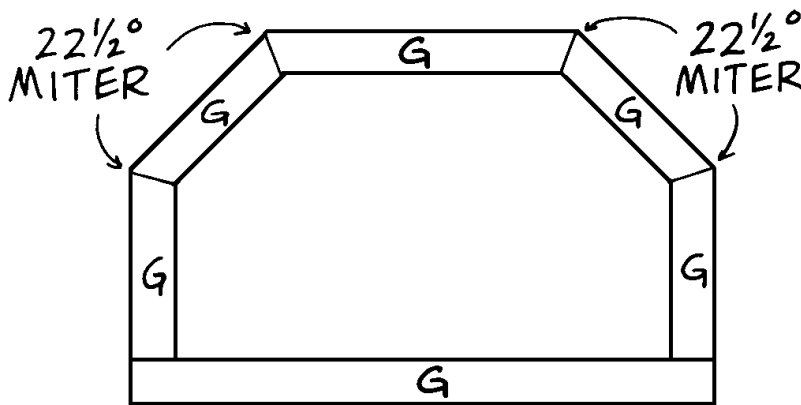

Figure 4
- Measure carefully and cut lengths of trim (G) from 1 x 3 pine to cover the exposed top edges of the planters, as shown in *Figure 4*. Note that some of the trim pieces (G) must be mitered at a 22-1/2-degree angle on one or both ends.